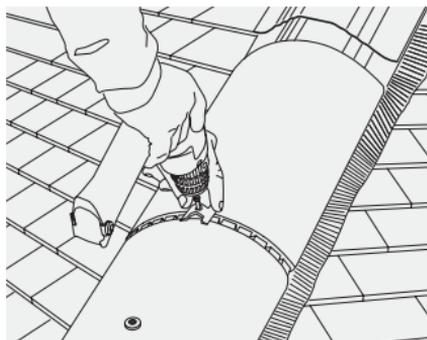

Fig. 63 – Fixing Hip Unions
- 11 Position next Hip tile into open side of Hip Union and Clamp assembly. Continue process of laying support trays (centrally along hip tree at 100mm overlap), hip tiles, unions and clamps ensuring that all tiles are aligned. Ensure screws are tightened well and the edges of the Hip tiles sit evenly on Hip Support Trays (Fig. 63).